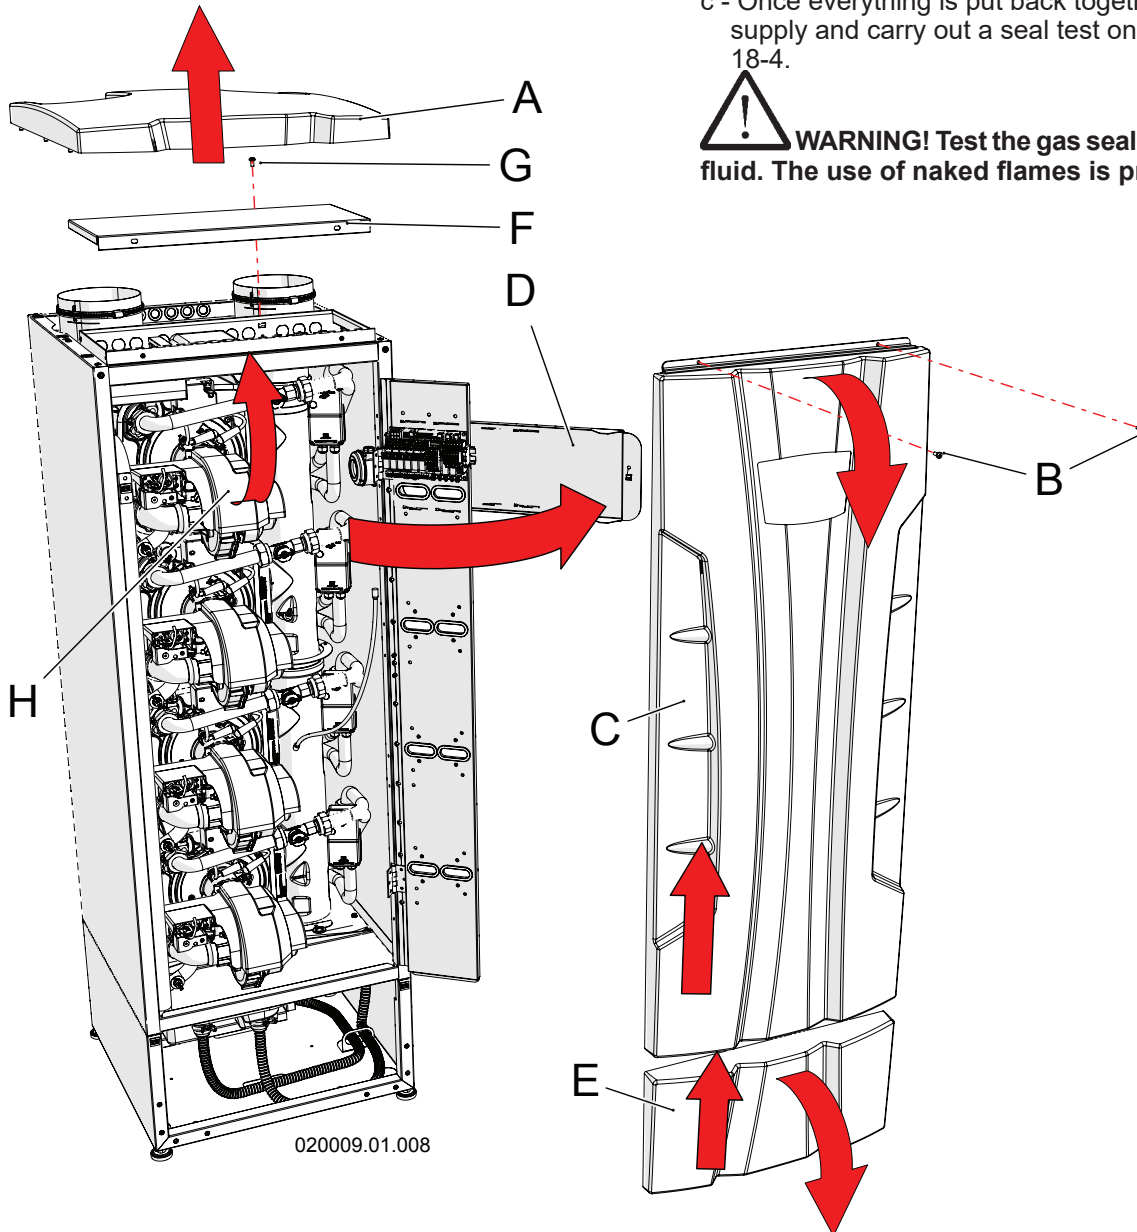

Figure 18-1 - Dismantling of casing and opening of control panel
To dismantle the cover, proceed as follows (refer to Figure 18-1):
1. Follow the steps of section 18.2 to take off cover "E" in figure 18-1;